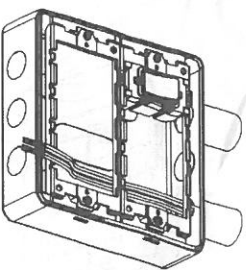

Fig.3a
- Clip the modules to the grid, see fig.3a